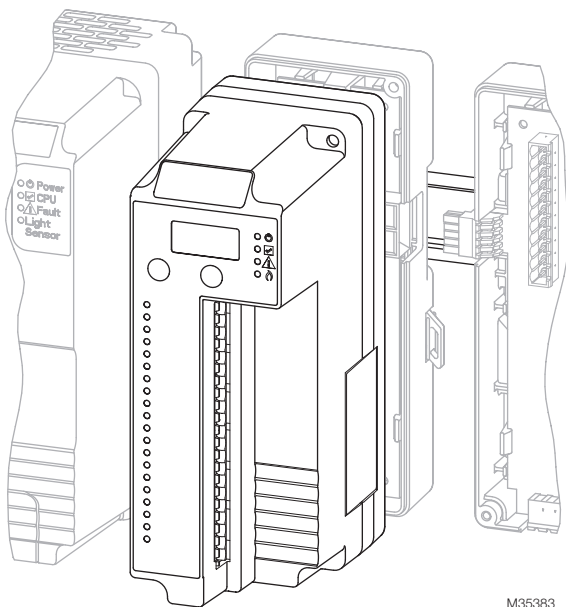

Fig. 3. Installing the UV Ampli-Check Flame Amplifier on the Sub-Base Module.
DIN Rail (See Fig. 3)
3. Install the Flame Amplifier on the Sub-Base. See Fig. 3.